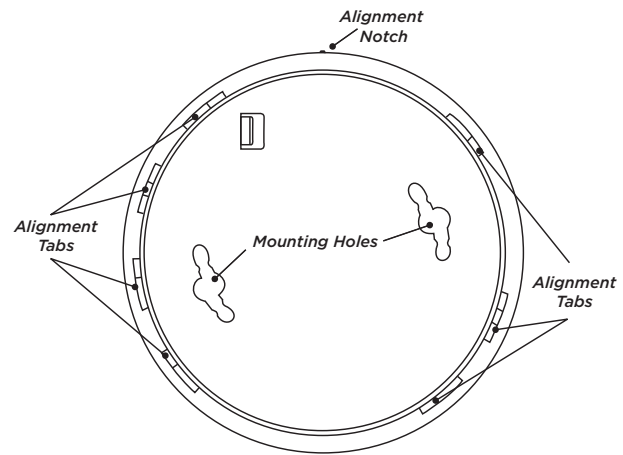

Figure 4: Mounting Base
**Note:** To remove the detector from the mounting base, grasp the detector and turn it counterclockwise approximately 15 degrees. The detector should snap off of the mounting base. See Figure 4.